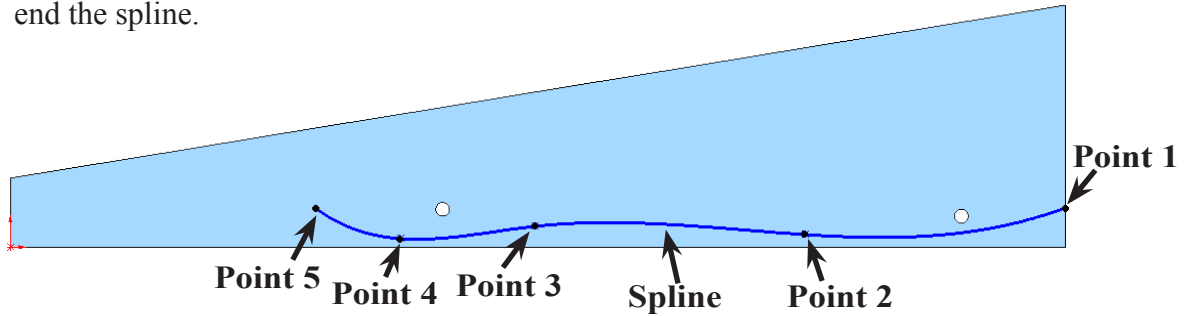

Fig. 8
Step 3. Draw a 5 point spline starting on the rear edge of Blank, **Point 1, Fig. 8**. Click approximately where the 5 points are positioned in **Fig. 8**. Keep the other splines points, Points 2, 3 and 4 away from other geometry, axle holes and bottom edge of Blank. Press **Escape** to end the spline.